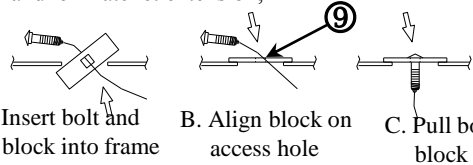

Figure 2
4. Feed ½-13 carriage bolt and spacer into passenger side frame rail as shown using reverse pullwire procedure. Leave pullwire attached. See Figure 2.